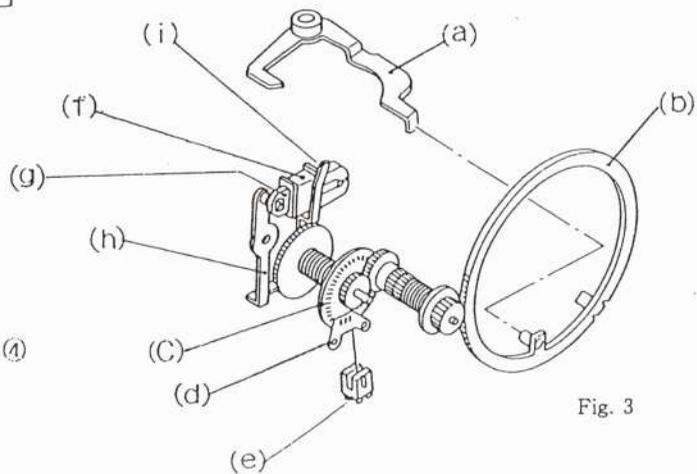

Fig. 3
#### (2) Aperture Control Mechanism. (refer to Fig. 3)
The Aperture control mechanism is charged in the manner shown in Fig. 3 with "1".